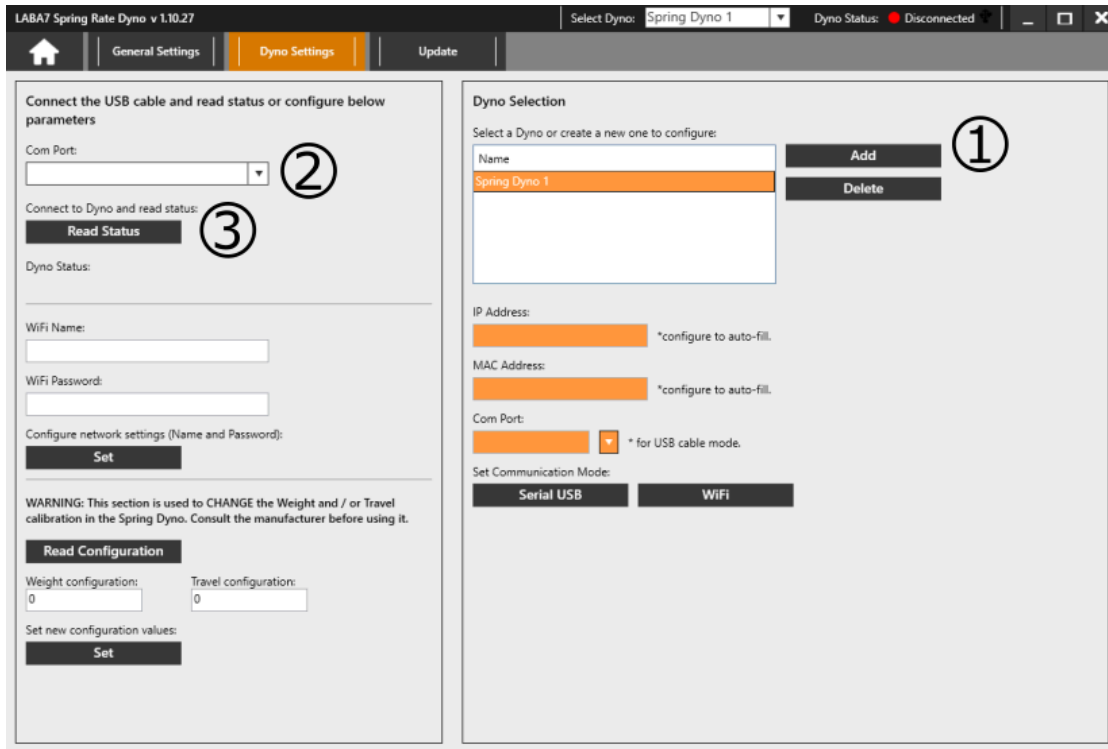

Figure 11
5. Add a new Dyno model by clicking the **Add** button (Figure 11 – Step 1).
9. Select the newly appeared Com Port of the connected Dyno from the drop-down menu (Figure 11 – Step 2).
10. Click on the **Read Status** button (Figure 11 – Step 3).